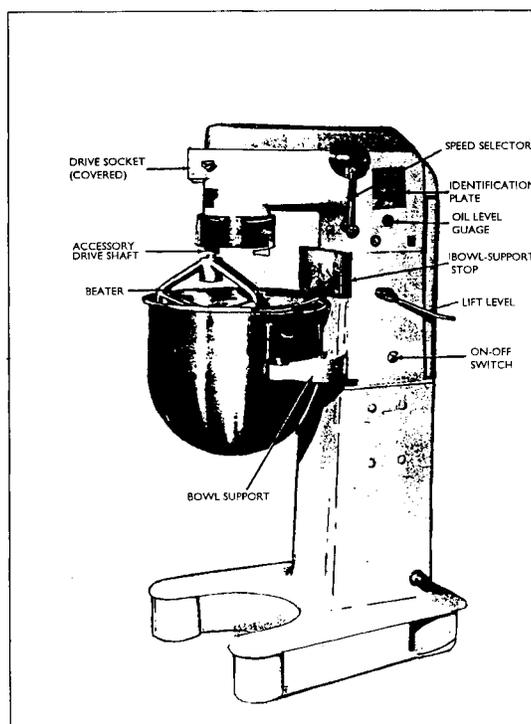

Figure 3-21. Mixing machine
1. Set up the mixer. See Figure 3-21.